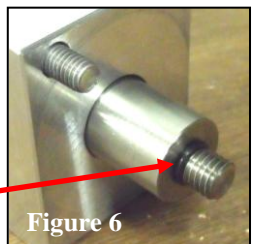

Figure 6
3. Apply one (1) drop of Blue Loctite (removable) to exposed threads of Cylinder Coupler as shown in Figure 6.